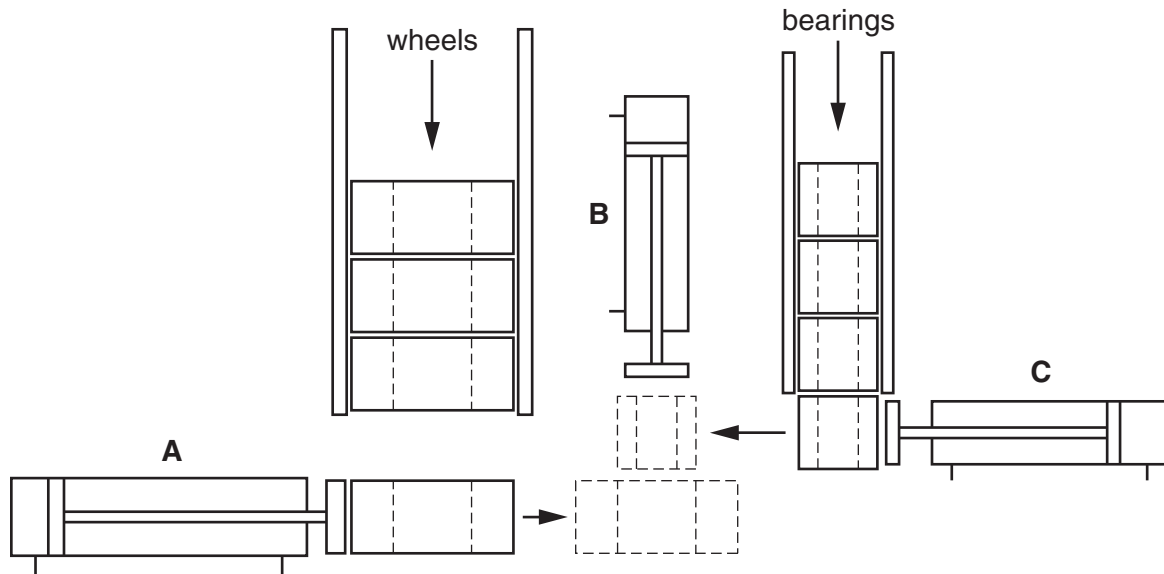

Fig. 3
- 4 Fig. 3 shows the system for pressing the bearings into the wheels.